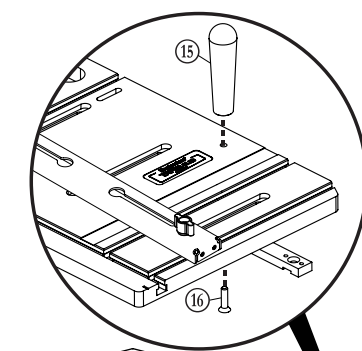

FIGURE E-1
1. Thread the ⑯ Flat Head Phillips Screw through the hole on the underside of the ① Sled Base and into the ⑮ Handle and firmly tighten. **FIGURE E-1.**